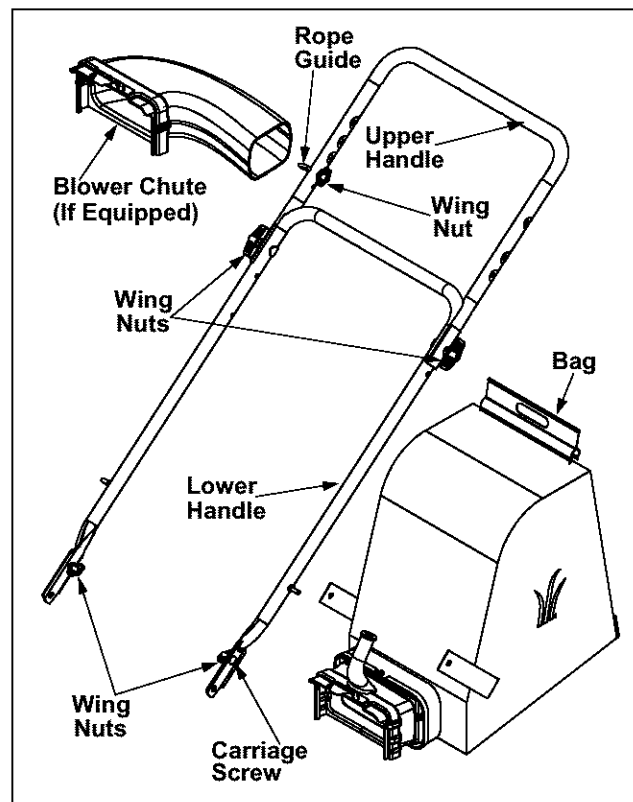

Figure 3
See Figure 3
2. Fold out the upper handle until it aligns with lower handle. Make sure the rope guide is on the right side of upper handle. See Figure 3.